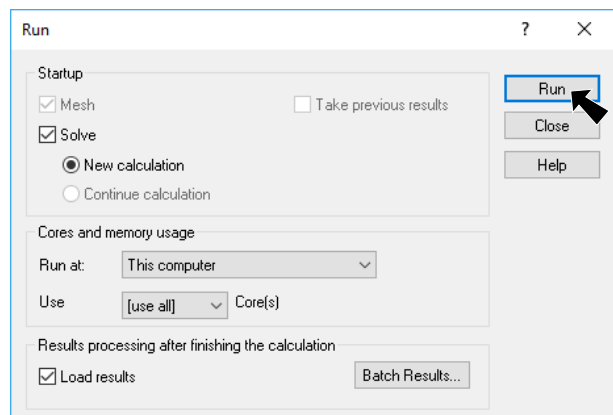

Fig. 15
Step 2. Click **Run** in the Run dialog box, **Fig. 15**.